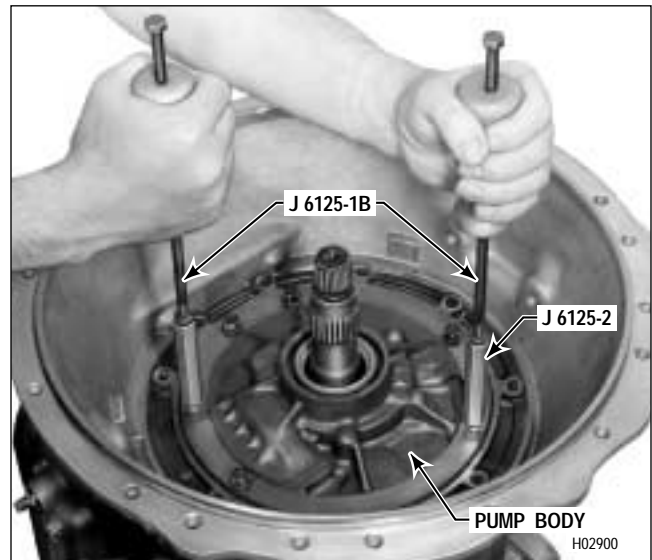

Figure 5-9. Removing Pump Assembly (Models without Retarder)
(4) Remove two bolts and washers from the locations in the pump body as shown in Figure 5-9 or 5-10. Install two J 6125-B slide hammers into J 6125-2 adapters.
The two holes where the slide hammers are shown in place in Figures 5-9 and 5-10 are threaded for the J 6125-2 adapters.